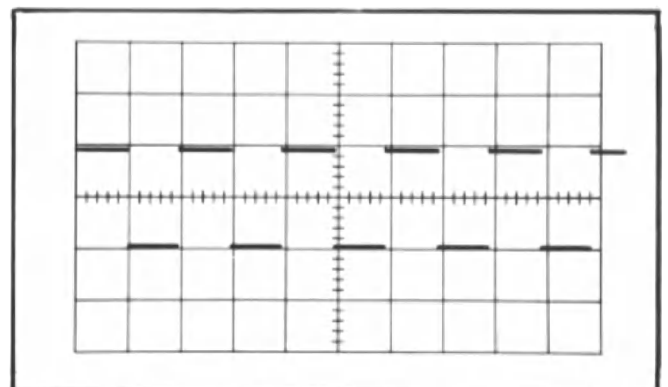

Fig. 7-20. Channel 1 signal out amplifier waveform.
e. CHECK—That the peak-to-peak amplitude of the display is two cm (100 mV), ± 2 mm (see Fig. 7-20). This is a gain of $10\times$, $\pm 10\%$.